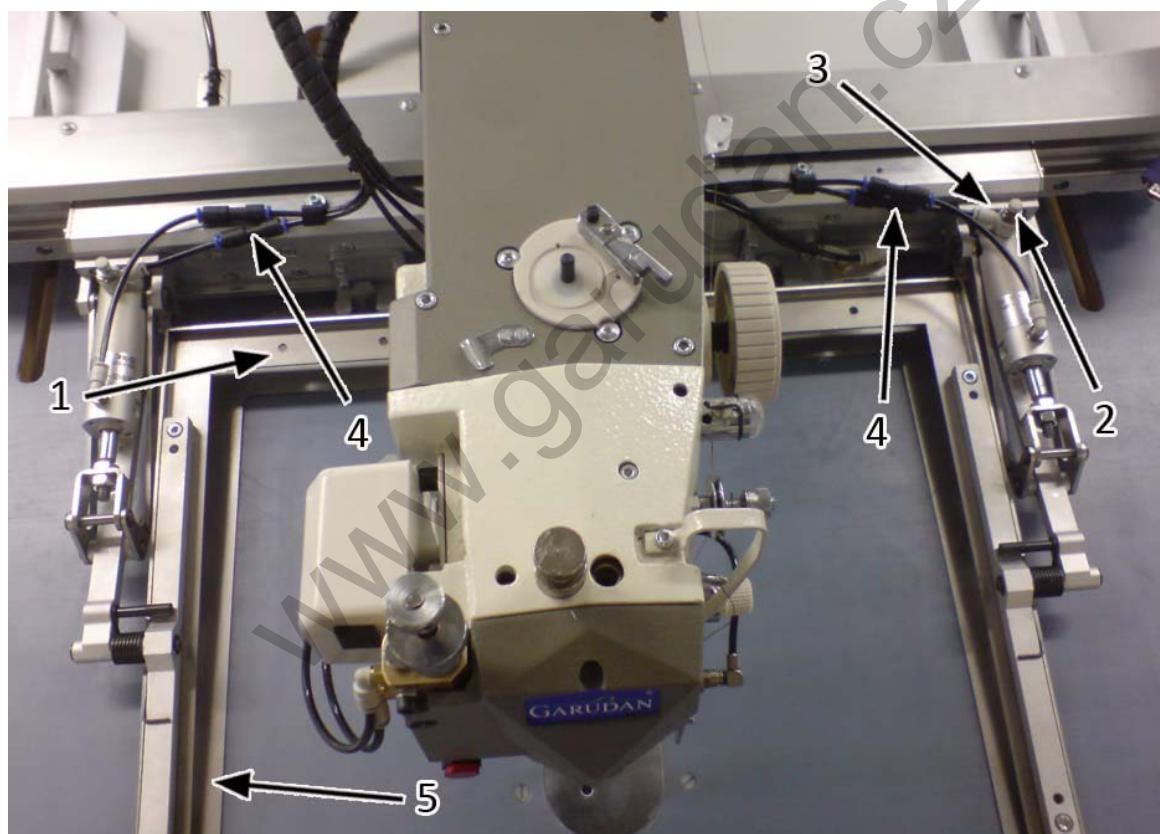

Fig. 48
If the machine is not supplied with special feeding frame or feeding frame with pneumatically actuated fixing manufactured by special order, standard solution mounted on the machine is compact feeding frame consisting of one-piece upper presser frame (1) and one-piece lower feeding frame (5), see fig. 48.
- A. Speed of the upper frame (1) down movement can be adjusted by valves (2) on both pneumatic cylinders